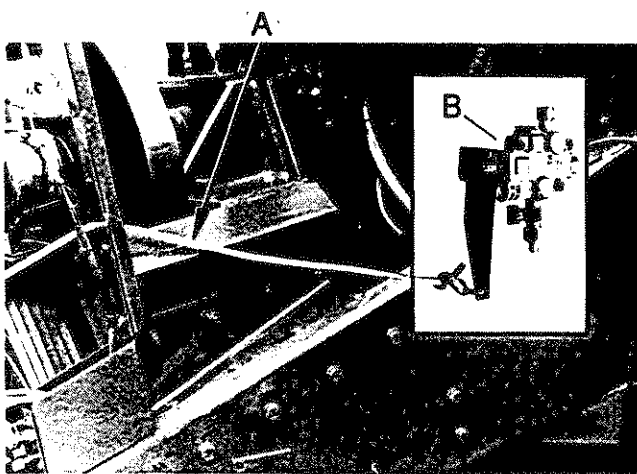

Fig. 9
The baler is equipped with a stop/reverse control rope, see A, Fig. 9, which is attached to a three-way valve, (B). Its function is to reverse the feeder system to facilitate service or cleaning the feed chute. Its operation is as follows: